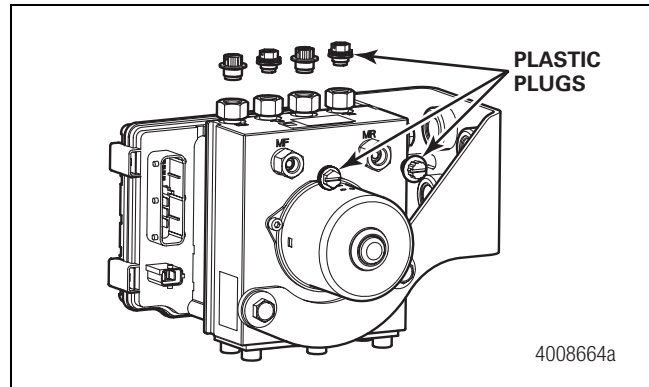

Figure 3
4. Remove and scrap the plastic plugs from the hydraulic ports of the new ECU/modulator assembly. Figure 3.